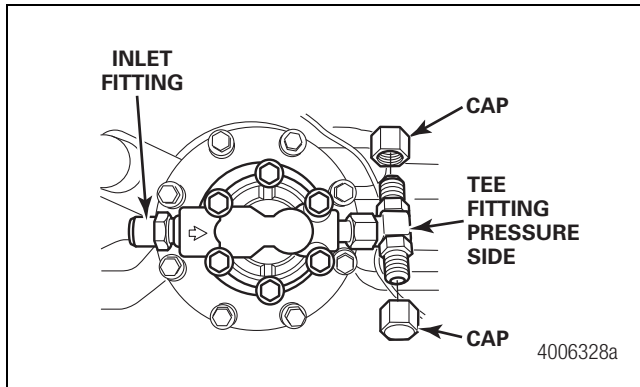

Figure 6.51
1. Prior to connecting the oil cooler line to the tee fitting, remove the tee fitting upper cap and add SAE Grade 50W full-synthetic oil, Meritor specification O-81, to the tee fitting until the tee fitting cavity is completely filled. Figure 6.51.
3. Connect the female fitting to the unused port of the diagnostic tee fitting. Figure 6.51.
4. Connect the female fitting to the unused port of the diagnostic tee fitting. Figure 6.51.